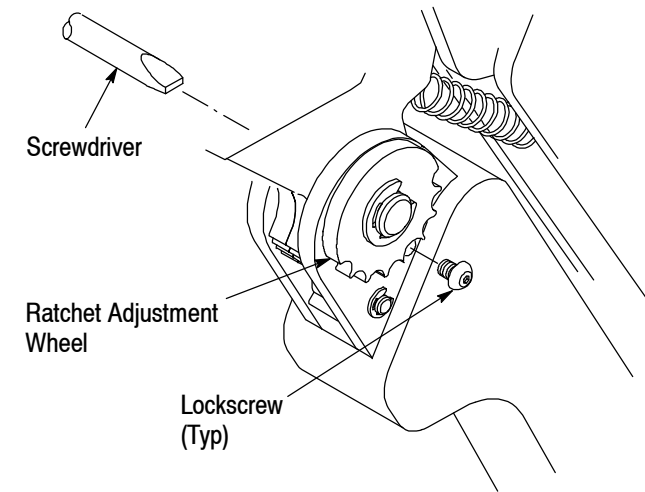

Figure 5
6. RATCHET (Crimp Height) ADJUSTMENT (Figure 5)